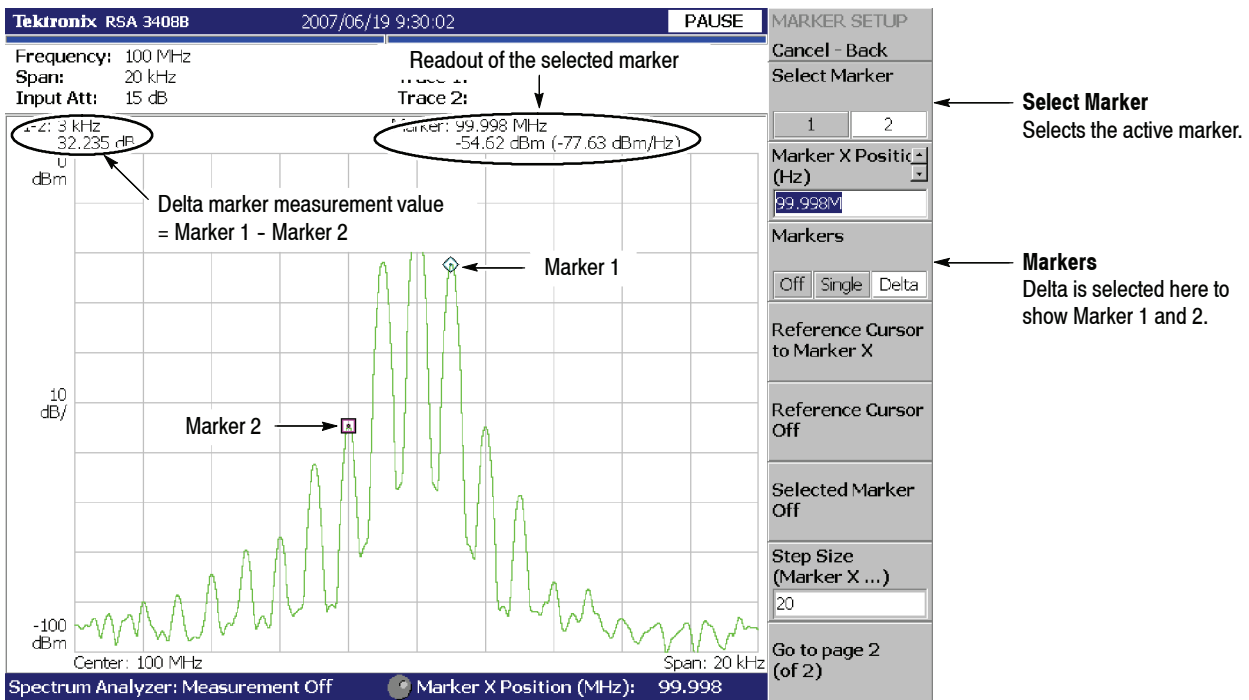

Figure 2-39: Measurement with the delta marker
4. The **Marker X Position** menu item is selected. Using the general purpose knob or the numeric input keypad, move the marker to a reference point (see Figure 2-39).
6. The **Marker X Position** menu item is selected. Using the general purpose knob or the numeric input keypad, move the marker to the desired measurement point (see Figure 2-39).